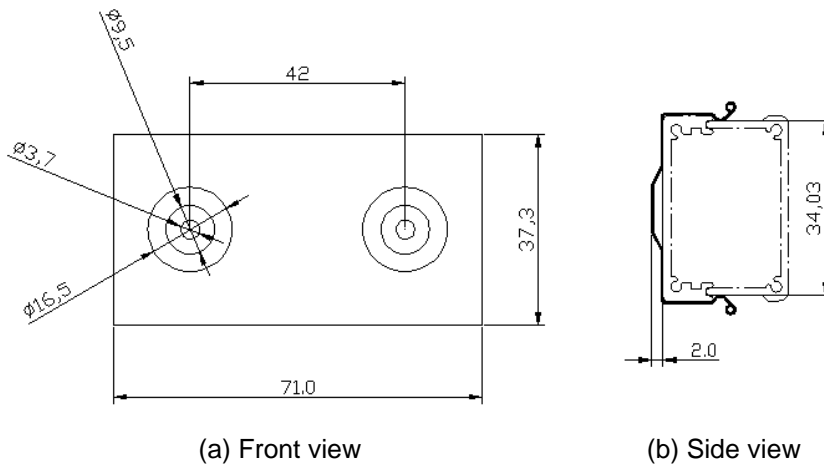

Fig. 3.2 Micro unit's clip
- a) Mount the clip (Fig. 3.2) onto a fixture, e.g. a plank, (either on the wall or on a flat surface) with two screws through the holes on the mounting frame to secure it in position.